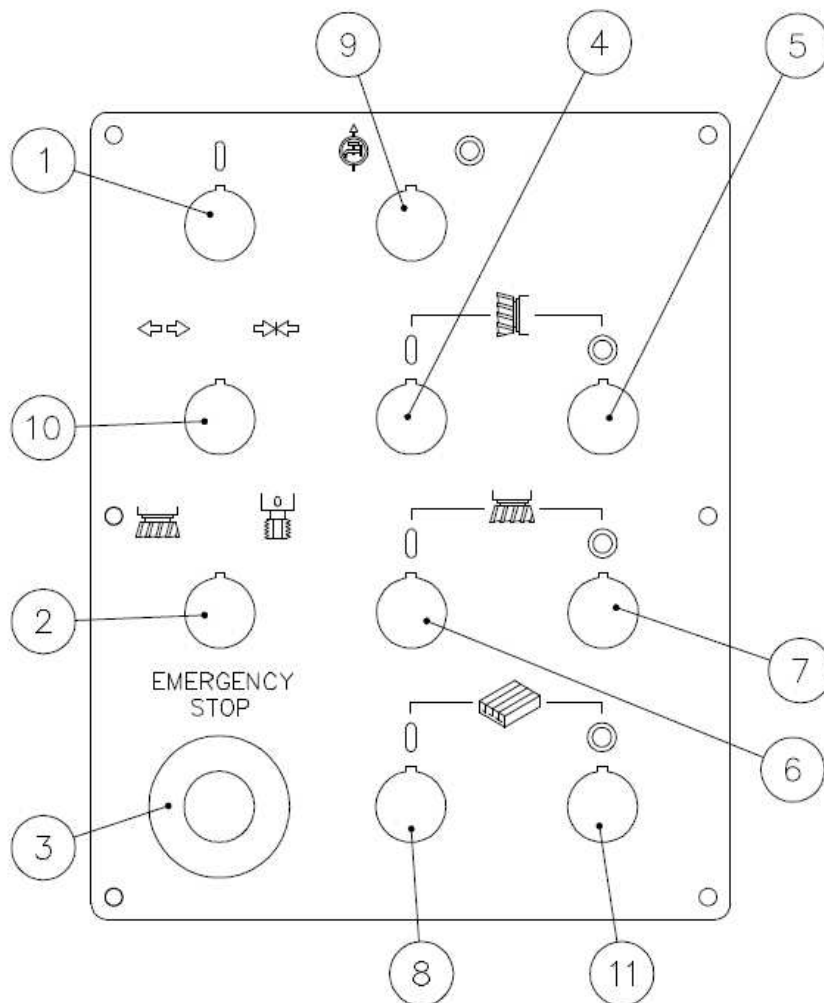

Fig.8
3-2 Electric operation panel (Fig. 8)
Steps to rotate the spindle: Push the horizontal spindle button (Fig. 8 (4)) or vertical spindle button (Fig.8 (6)) and the horizontal or vertical motor will start. Steps to stop the motor of vertical or horizontal spindle. Push the horizontal spindle stop button (Fig.8 (5)) or vertical spindle stop button (Fig.8 (7)). And the rotating spindle will gradually slow down and stop. If turning spindle brake switch (Fig.8 (10)) to right then the spindle will stop immediately.
Steps to operate the tapping function: Turn button (Fig.8 (2)) to the right, and pull the tapping control lever (Fig.9) up for release (Counter-clock-wise), down for tapping (Clock-wise).
To facilitate changing spindle speed, stop main motor by depressing horizontal spindle stop button (Fig.8 (5)). Turn spindle rotated direction switch (Fig.10 (3)) to position 1 or 2 and then intermittently press the inching button (Fig.10 (4)), at the same time moving lever (Fig.10 (2)) until the required gears are engaged. It should be noted that the feed motor will automatically stop when the inching button is operated.
- (4) Then push the spindle starting button (Fig.8 (6)) forward to start the spindle. The required automatic feed is thus obtained. Precaution for using the vertical spindle automatic feeding device: The spindle feeding direction change-over lever must always be at the stop position when the automatic feed is not in use.
Start feed motor by push button (Fig.8 (8)) and then lever (Fig.18 (4)) upwards for the saddle to feed towards the column, and for the saddle to feed away from the column move lever (Fig.18 (4)) downward.
Start feed motor by push button (Fig.8 (8)) and then move lever (Fig.18 (5)) upward to feed the knee upwards to move lever (Fig.18 (5)) downward, to feed the knee downward.
Start feed motor by push button (Fig.8 (8)) and then move lever (Fig.18 (7)) right for the table to feed from the left to the right and for the table to feed from right to left move lever (Fig.18 (7)) to left.
Push the button (Fig.8 (8)) to start the table longitudinal feed motor.